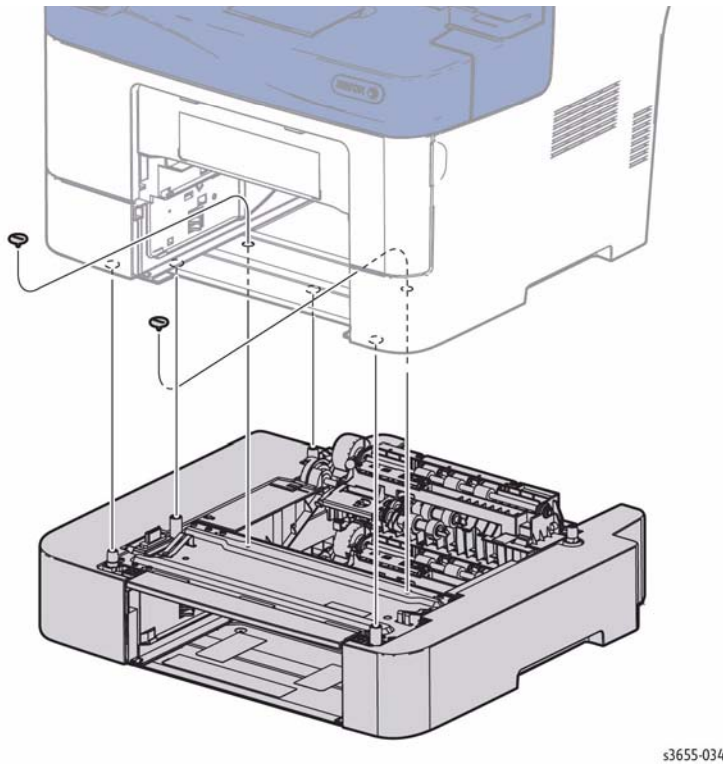

Figure 1 Remove the Optional Feeder
3. Refer to Figure 1 to locate and remove 2 screw locks that secure the feeder to the printer.